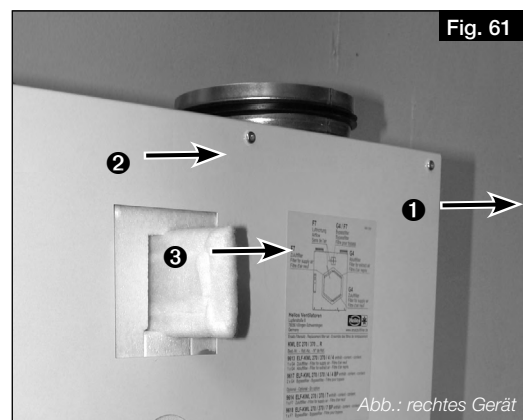

Fig. 61
2. Pull intake air filter **1** to the front and replace (see Fig. 61).
3. Pull extract air filter **2** (incl. frame) to the front and replace (see Fig. 61).
4. Optional: Pull fine/pollen filter (ePM1 50 %) **3** incl. frame to the front and replace (see Fig. 61).
- ① **Confirm via the easyControls 3.0 software or KWL-BE Touch.**